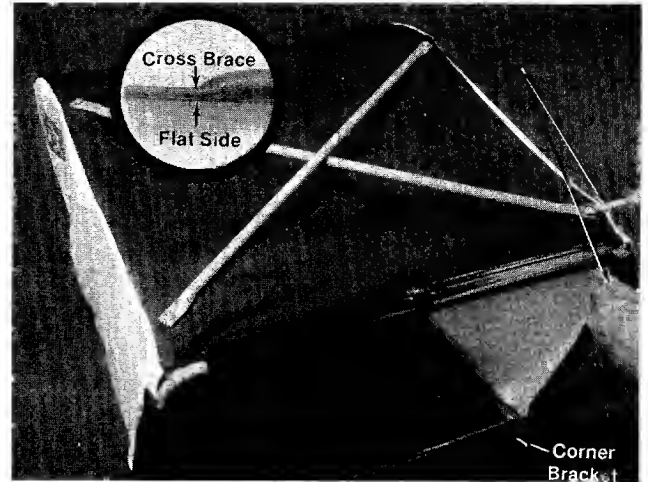

FIGURE 10.
Use two 7/16" wrenches to tighten. See figure 10.
4. Turn the grass catcher over (so that corner brackets are down) and place the cross braces in position as shown in figure 10.